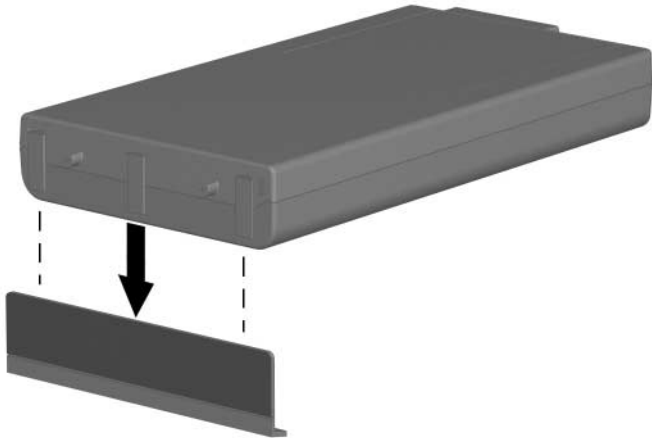

Figure 5-3. Removing the Battery Bezel
4. To remove the battery bezel, slide the bezel straight down (Figure 5-3).